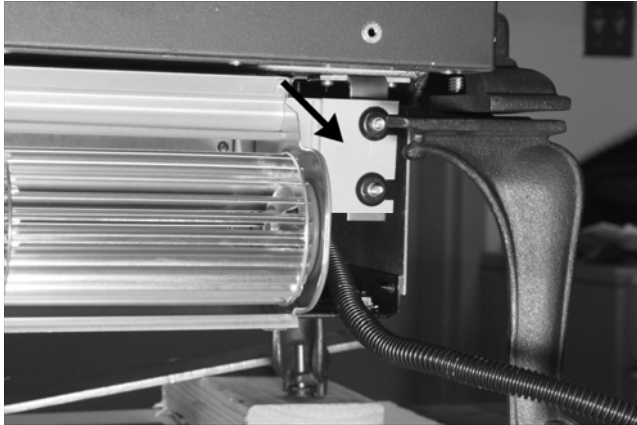

Figure 12
13. At the right side of the fan mounting plate, center the grommets (with brass inserts) over the two threaded studs and push the grommets over the studs. See Figure 12. Place a flat washer over each grommet, thread on a lock-nut and tighten firmly just until the washer contacts the brass insert in the grommet. Also tighten the lock nuts on the left side of the fan mounting plate just until the washers contact the brass insert in the grommets. Be careful not to capture any wires between the mounting plate and the support brackets.